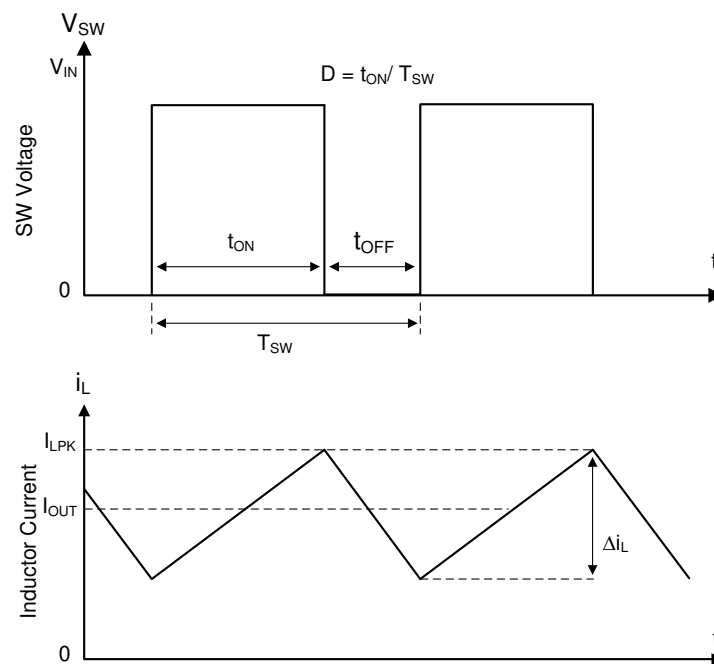

図 7-1. SW Node and Inductor Current Waveforms in Continuous Conduction Mode (CCM)
The following operating description of the LMR51403 refers to the Functional Block Diagram and to the waveforms in Figure 7-1. The LMR51403 is a step-down synchronous buck converter with integrated high-side (HS) and low-side (LS) switches (synchronous rectifier). The LMR51403 supplies a regulated output voltage by turning on the high-side and low-side NMOS switches with controlled duty cycle. During high-side switch ON time, the SW pin voltage swings up to approximately V_{IN} , and the inductor current, i_L , increases with a linear slope of $(V_{IN} - V_{OUT}) / L$. When the high-side switch is turned off by the control logic, the low-side switch is turned on after an anti-shoot-through dead time. Inductor current discharges through the low-side switch with a slope of $-V_{OUT} / L$. The control parameter of a buck converter is defined as Duty Cycle $D = t_{ON} / T_{SW}$, where t_{ON} is the high-side switch ON time and T_{SW} is the switching period. The converter control loop maintains a constant output voltage by adjusting the duty cycle D . In an ideal buck converter, where losses are ignored, D is proportional to the output voltage and inversely proportional to the input voltage: $D = V_{OUT} / V_{IN}$.